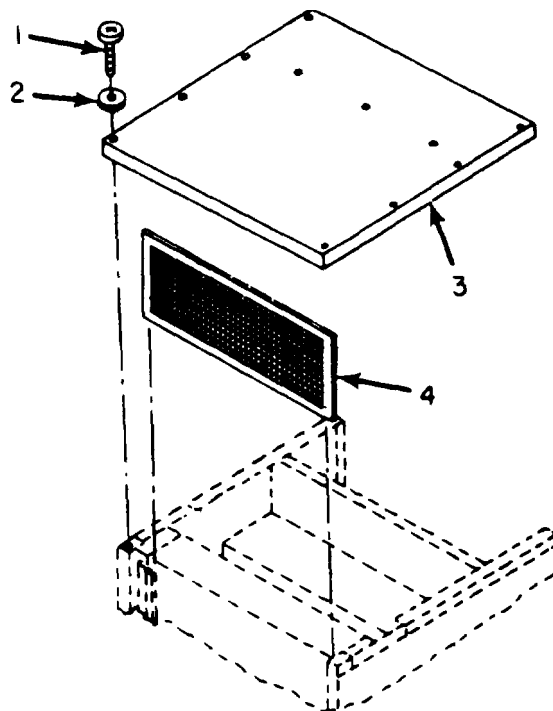

Figure 4-12. Mist Eliminator.
- a. **REMOVAL** (See Figure 4-12). Carefully lift out mist eliminator (4).